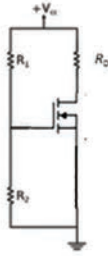

Figure 7.39 Ch 7: No. 20, self-test
20. Determine the values of I_D and V_{DS} for the circuit shown in Figure 7.39, if R_1 is $4\text{ M}\Omega$, R_2 is $2\text{ M}\Omega$, R_D is $120\ \Omega$, V_{DD} is 15 V , $V_{GS(\text{Th})}$ is 3 V , and $I_{D(\text{on})}$ is 110 mA .